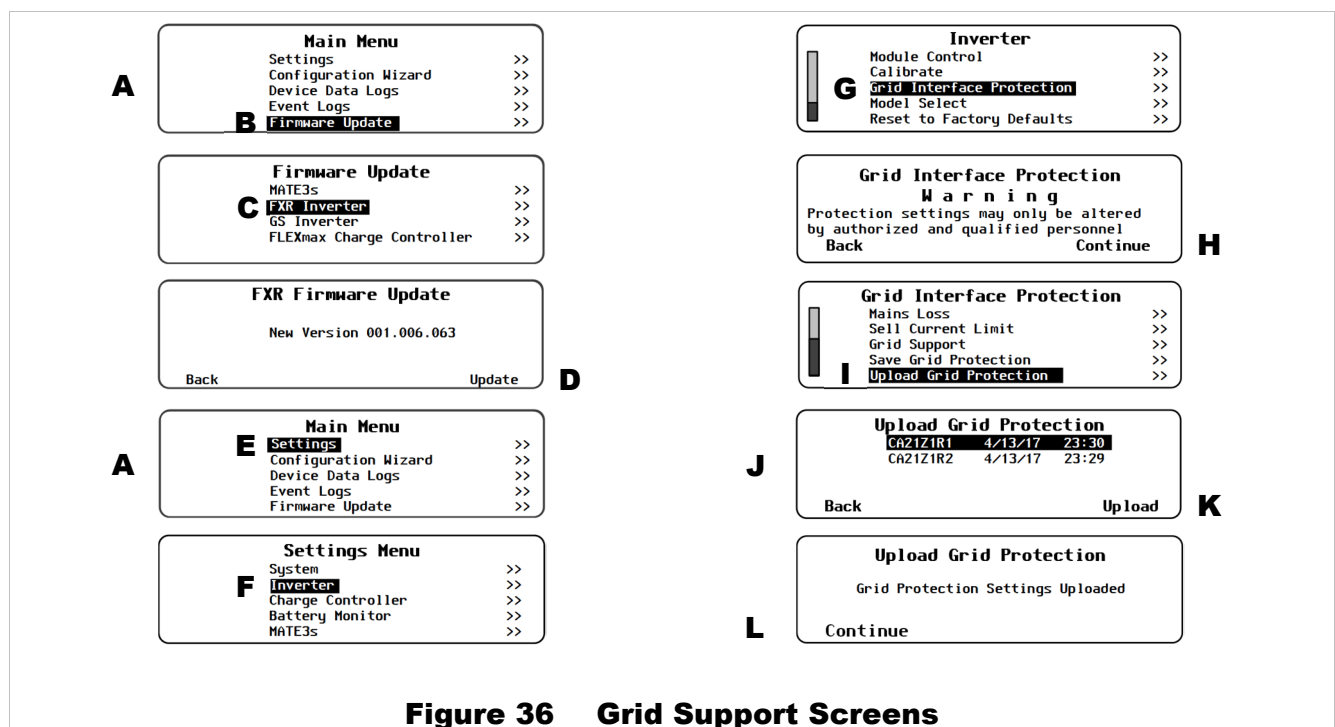

Figure 36 Grid Support Screens
2. From the MATE3s **Main Menu** (**A** in Figure 36), choose **Firmware Update** (**B**) and then **FXR Inverter** (**C**). The display will show that new firmware is present. (The revision should be 001.006.063 or greater.) Press **Update** (**D**) to download this firmware into the FXR inverter. This can take up to ten minutes per inverter. In certain systems it may take up to 20 minutes.